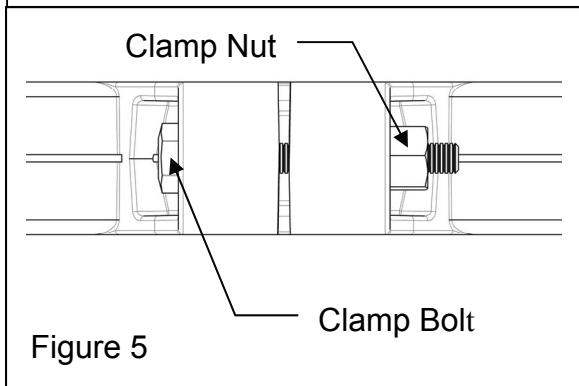

Figure 5
5. Using 3/4” wrenches, loosen and remove the clamp nut and the clamp bolt. (Fig 5)